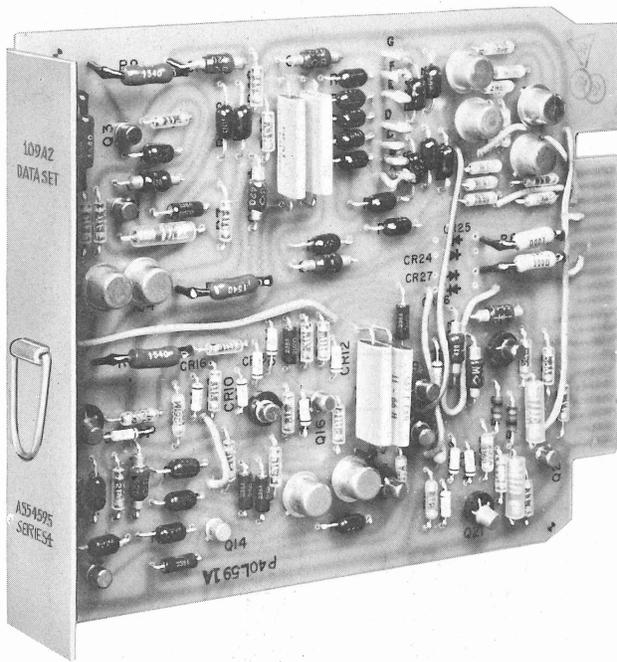

Fig. 22—Data Set 109A-Type
5.01 There are no preoperative adjustments and tests required when installing the data set 109A-type (Fig. 22).